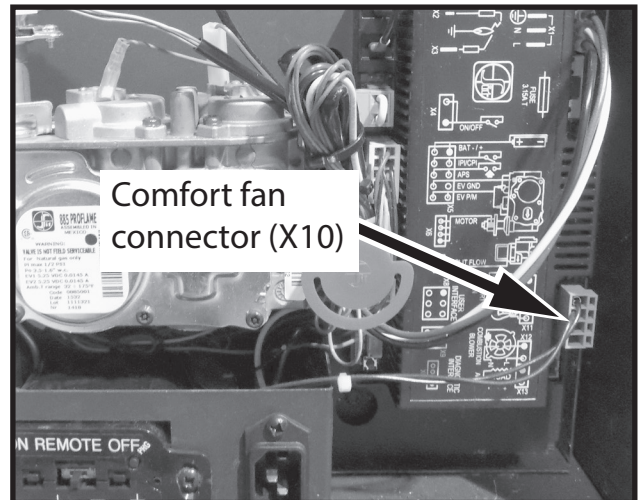

Figure 64: Comfort fan electrical connector.
14. Remove connector X10 (comfort fan) from the control module (Figure 64).